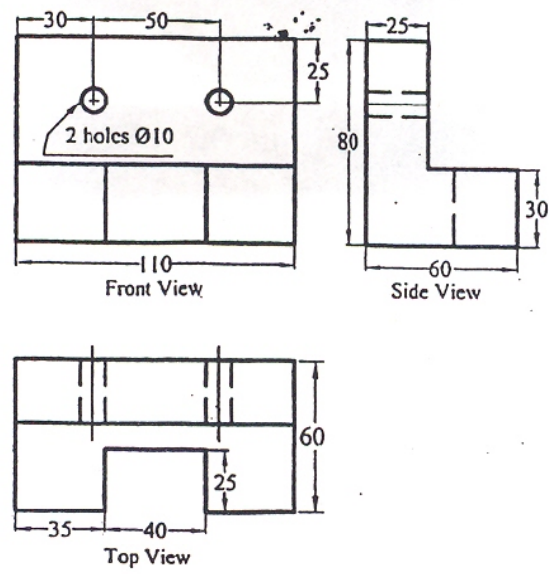

Fig. 1
5. Draw the isometric view for the orthographic views shown in Fig. 1.